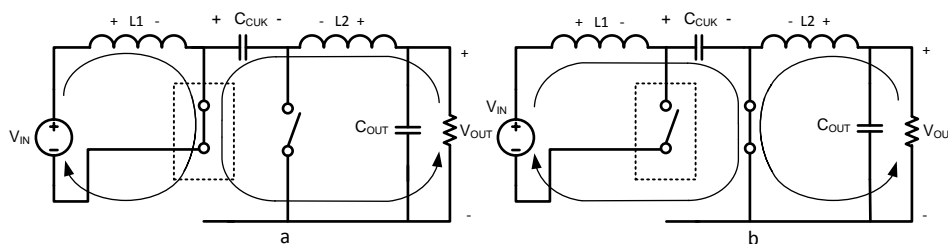
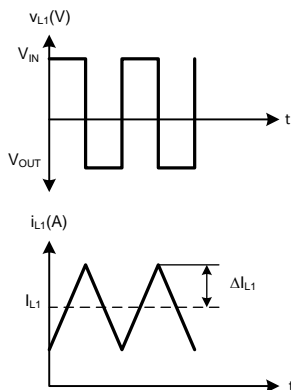
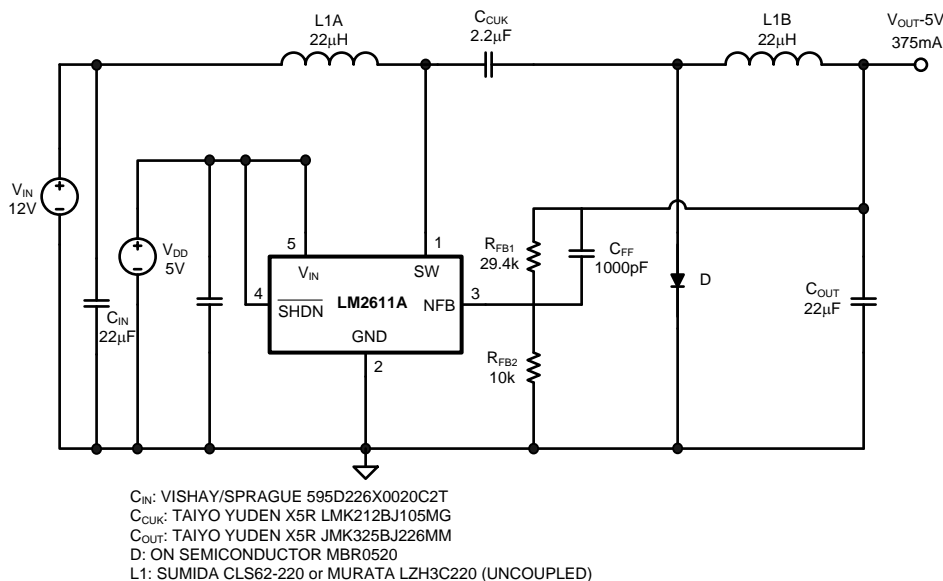

Figure 13. Operating Cycles of a Cuk Converter
Figure 14. Voltage and Current Waveforms in Inductor L1 of a Cuk Converter
Figure 15. Schematic of the Cuk Converter Using LM2611
The operating states of the Cuk converter are shown in Figure 13. During the first cycle, the transistor switch is closed and the diode is open.  $L1$  is charged by the source and  $L2$  is charged by  $C_{CUK}$ , while the output current is provided by  $L2$ . In the second cycle,  $L1$  charges  $C_{CUK}$  and  $L2$  discharges through the load. By applying the volt-second balance to either of the inductors, use Equation 1 to determine the relationship of  $V_{OUT}$  to the duty cycle (D).
Figure 14 and Figure 15 show the steady-state voltage and current waveforms for L1 and L2, respectively. Referring to Figure 13 (a), when the switch is closed,  $V_{IN}$  is applied across L1. In the next cycle, the switch opens and the diode becomes forward biased, and  $V_{OUT}$  is applied across L1 (the voltage across  $C_{CUK}$  is  $V_{IN} - V_{OUT}$ .)
The voltage and current waveforms of inductor L2 are shown in Figure 15. During the first cycle of operation, when the switch is closed,  $V_{IN}$  is applied across L2. When the switch opens,  $V_{OUT}$  is applied across L2.
Equation 2 to Equation 5 define the values given in Figure 14 and Figure 15:
The input current waveform to a Cuk converter is continuous and triangular, as shown in Figure 14. The input inductor insures that the input capacitor sees fairly low ripple currents. However, as the input inductor gets smaller, the input ripple goes up. The RMS current in the input capacitor is shown in Equation 7.
Like the input current, the output current is also continuous, triangular, and has low ripple (see  $I_{L2}$  in Figure 15). The output capacitor must be rated to handle its RMS current: